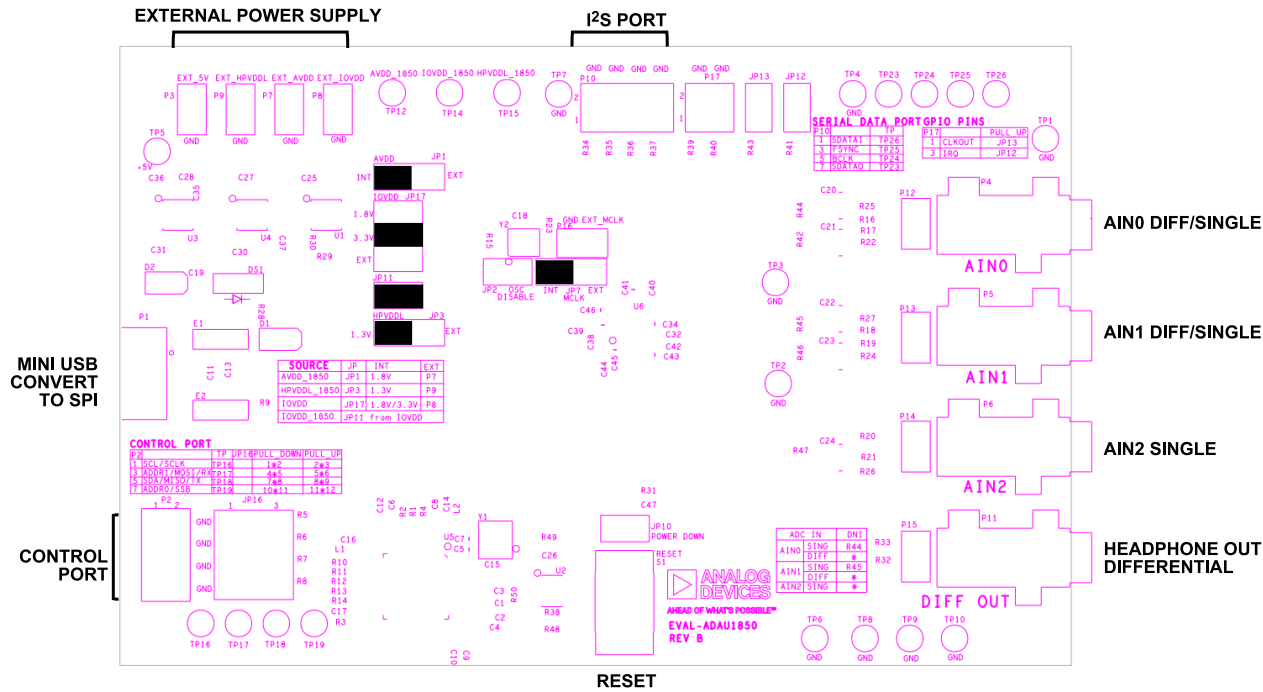

Figure 2. EVAL-ADAU1850EBZ Board Block Diagram
- ▶ Connecting the USB cable to P1 (see Figure 2)